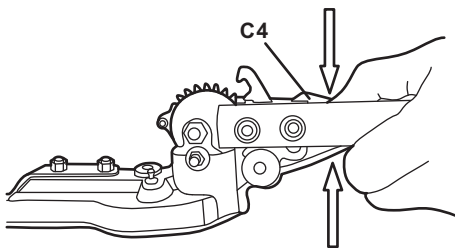

Fig. 28b
2. Depress the unlock levers (C4) with one hand and hold them in position. (See Fig. 28b)